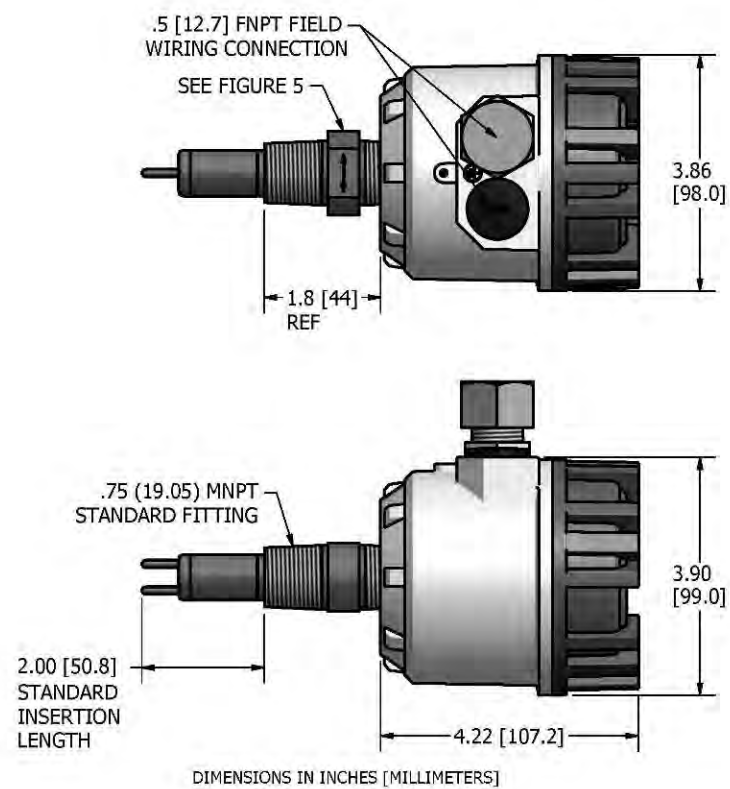

FIGURE 1 LS1100/FS2100 microtuf[®] II OUTLINE DIAGRAM STANDARD 2.0 INCH INSERTION
- **WHEN INSTALLING YOUR DELTA M SWITCH INTO A PIPE OR VESSEL USE A 1 1/8 INCH OPEN-END WRENCH TO TIGHTEN AT THE HEX FLATS OF THE MNPT OF A STANDARD SWITCH. (IF YOU HAVE A NON-STANDARD SWITCH AN ALTERNATE SIZE WRENCH MAY BE REQUIRED). DO NOT USE THE INSTRUMENT HEAD TO TIGHTEN THE SWITCH TO THE MOUNTING PORT. ROTATION OF THE INSTRUMENT HEAD WITH RESPECT TO THE SENSOR BODY CAN CAUSE INTERNAL WIRING DAMAGE (SEE FIGURE 1).**
The microtuf[®] II Switch uses a **thermal differential** technique to sense changes in the heat transfer characteristics of a media. Figure 1 shows the outline of the microtuf[®] II Switch. The sensor consists of a pair of matched, Resistance Temperature Detectors (RTD's) encased in twin 316L series stainless steel tubes. One RTD is self-heated using a constant DC current. The other RTD is not heated to provide an accurate process temperature reference. The **thermal differential** created between the heated and reference RTD pair is a function of the density and/or velocity of the media with which the sensor is in contact. Other physical properties may have a secondary effect as well. The differential is greatest at a no flow (or dry) condition and decreases as the rate of flow increases (or as a liquid quenches the sensor in a level application).